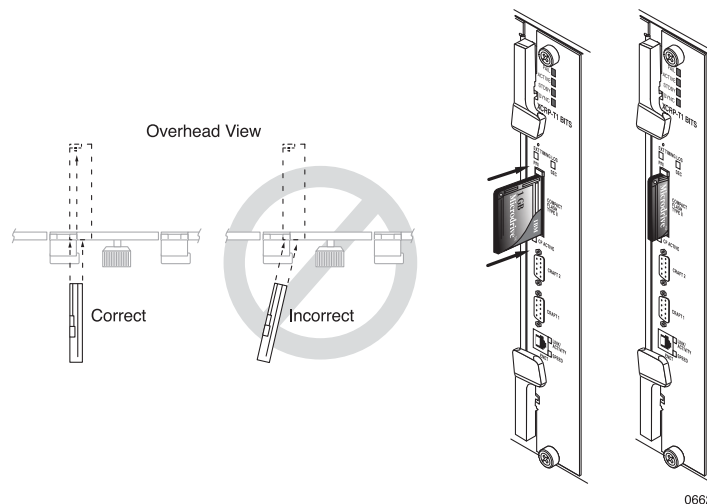

Figure 23 Installing a CF Card
3. Vertically align the CF card as close to the left edge of the slot as possible and perpendicular to it; see Figure 23.